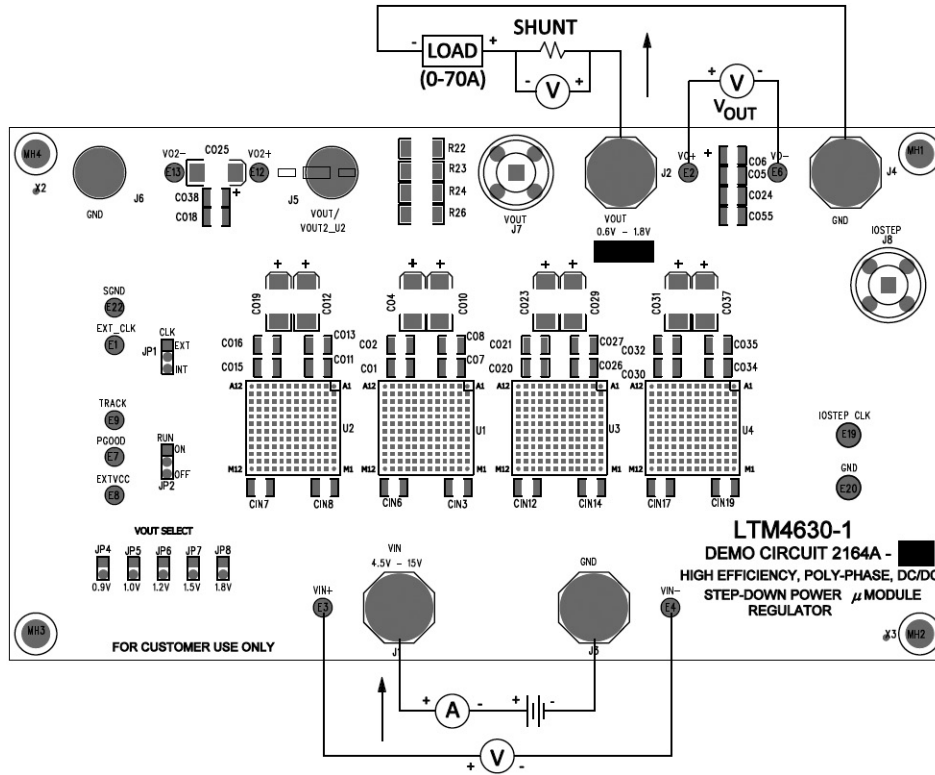

Figure 2. Test Setup of DC2164A-A
Demonstration circuit 2164A-A is easy to set up to evaluate the performance of PloyPhase operation of the LTM4630EY-1. Due to the high input/output current, user should select the proper input supply/load/cable which can sustain the full load operation. It's recommended to pull load current from J2 and J4. The load current pulled from J5 and J6 shouldn't exceed 18A. Please refer to Figure 2 for proper measurement setup and follow the procedure below:
- With power off, connect the input power supply, load and meters as shown in Figure 2. Preset the load to 0A and VIN supply to 12V.